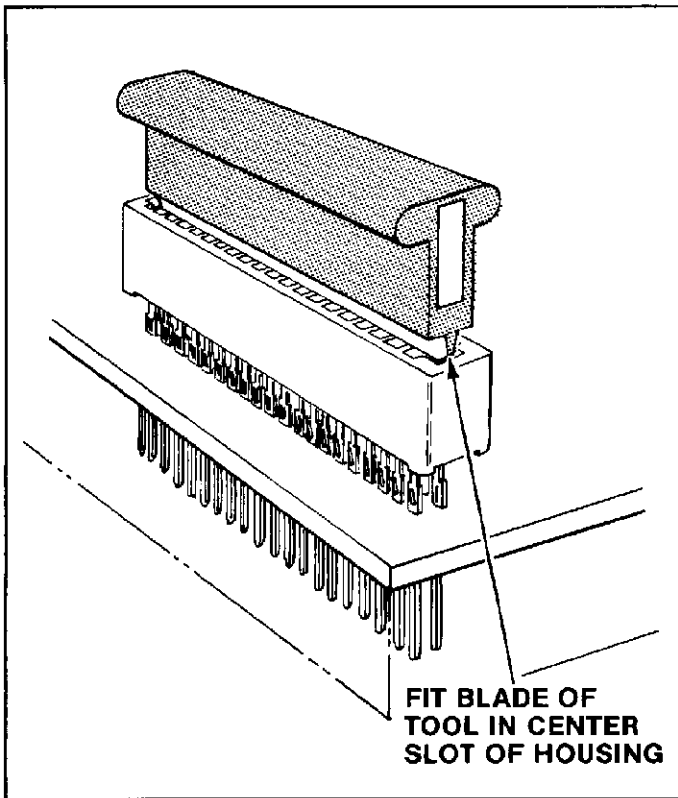

Fig. 3
4. Fit blade of housing tool into center of housing card slot (Figure 3).